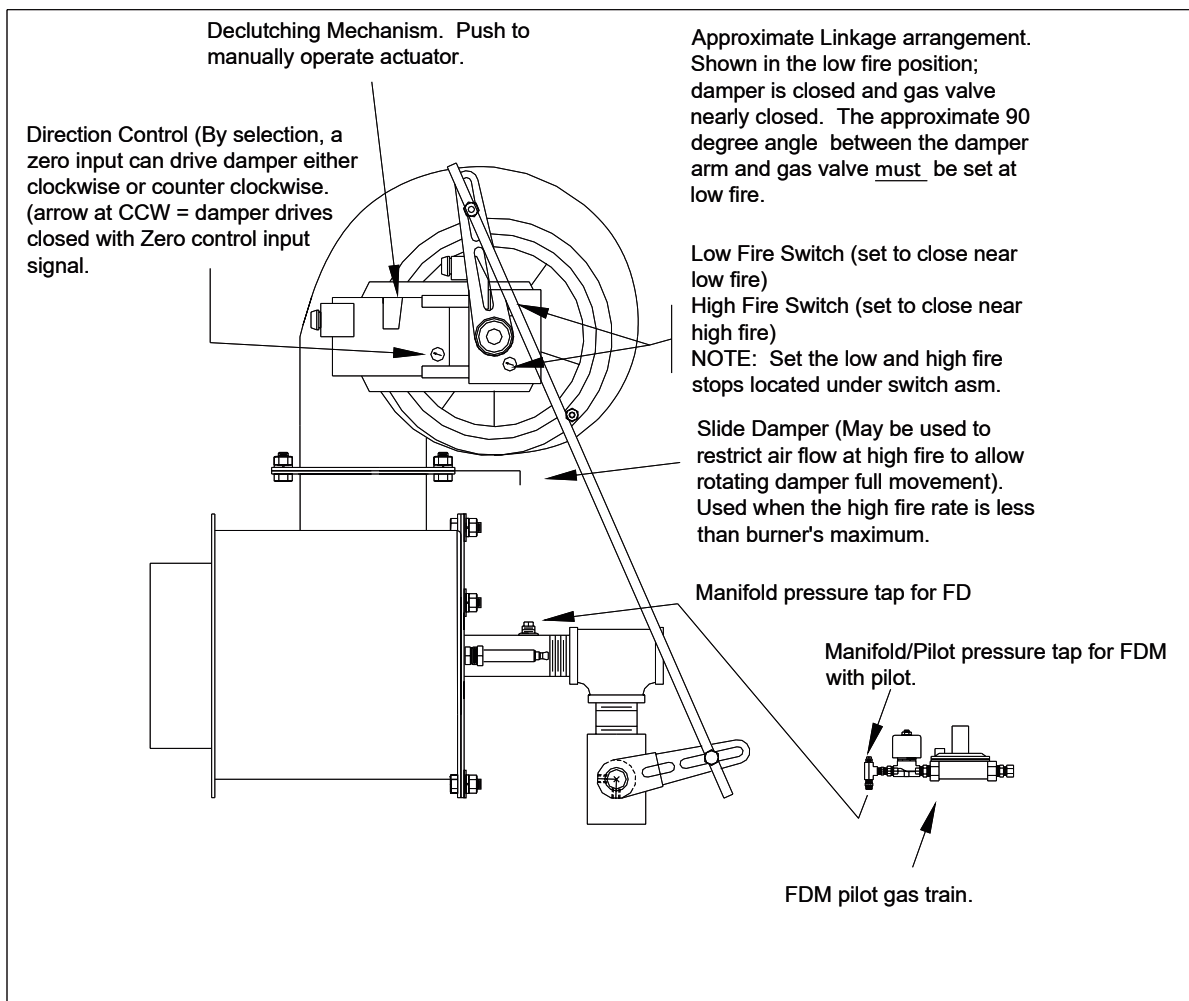

Figure 9: Linkage Setup for FDM Burner
- Prior to start up make certain that the gas butterfly valve (BFV) linkage and air damper are set to operate in all positions without binding. **Refer to Figure 9** (Linkage arrangement). Note: depress declutching mechanism to manually move the damper and BFV
- Either the high or low fire end switches do not close during the light off sequence (**refer to Figure 9** and wiring diagram supplied with the burner to set the switches).
- Once the high fire rate has been set, if it is necessary to reduce the excess of O₂ to an acceptable level, setting the sliding damper (**see Figure 9**).